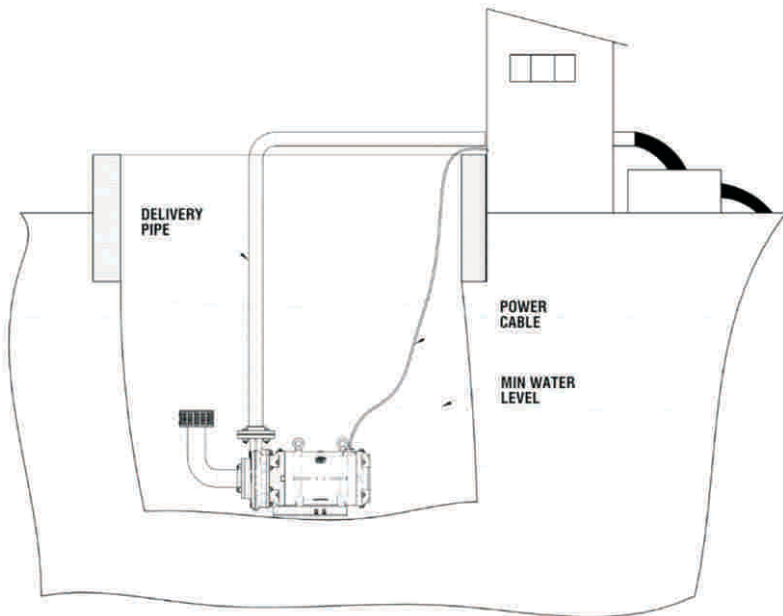

Fig.2 OWS With Flooded Suction
- Refer Fig.2, shown below for locating the OWS for operation with flooded suction.